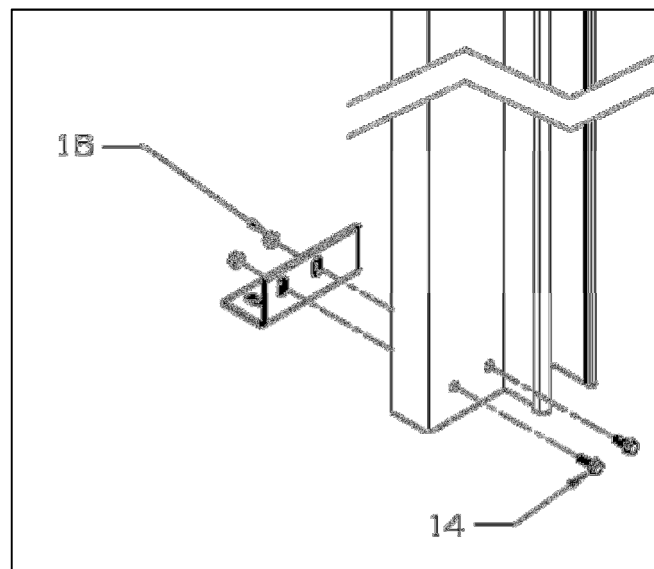

Fig. 7
5. Anchor the floor angle bracket. DO NOT tighten the anchors at securely this time — they will be tightened later on, after the head assembly is installed. (See #16 in Figure 7)